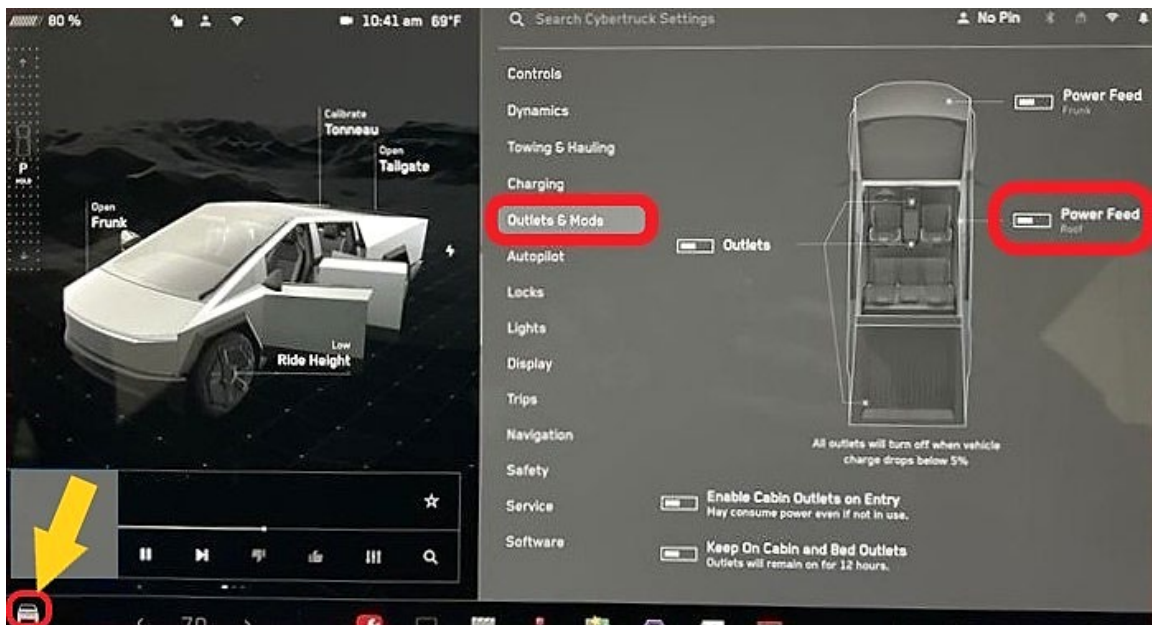

Figure 33
37. On the vehicle touchscreen, select **Controls** (vehicle icon) > **Outlets & Mods** > **Power Feed (Roof)** to enable the roof power feed (Figure 33).